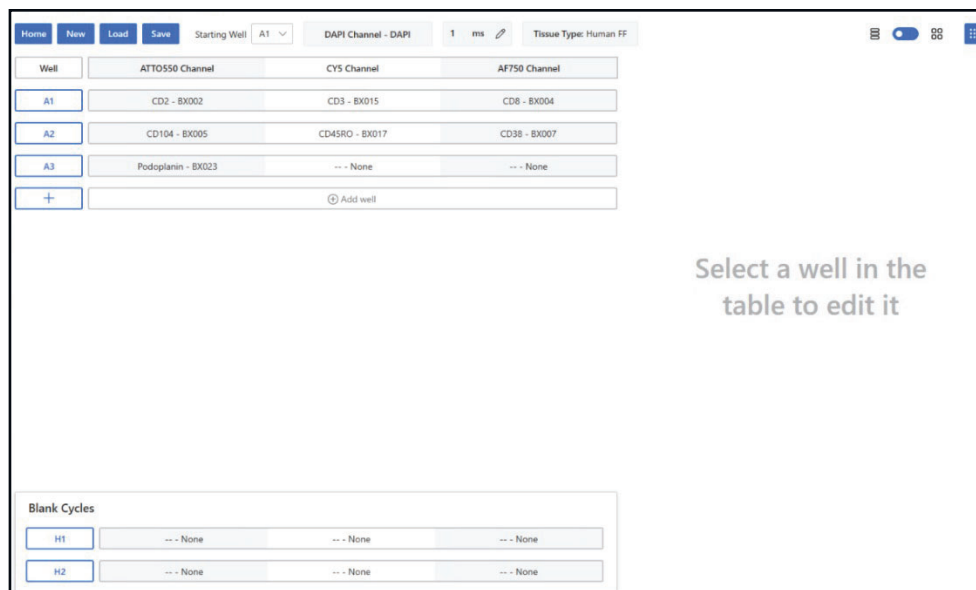

Figure 4.12. Cycle or Table Mode Layout.
8. Selecting Create displays the cycle layout/table mode. In this layout, the designer app sorts the marker detection into the minimum number of required cycles (See Fig. 4.12.). Each cycle consists of detection in DAPI channel plus up to three channels. The filter set selected in the main window—either ATTO550, Cy5, or AF750 (or AF488)—determines the three marker channels available.